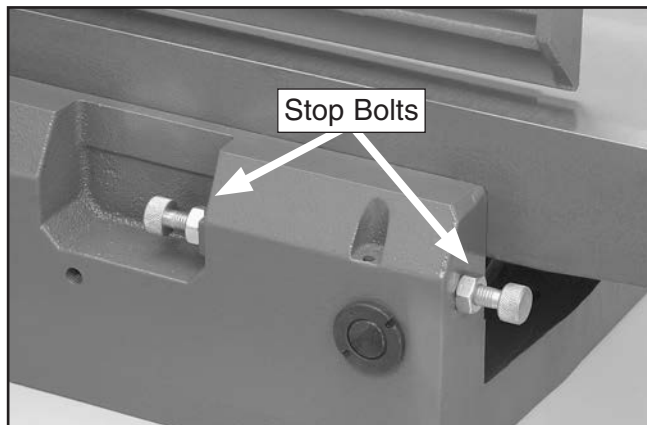

Figure 57. Outfeed table positive stop bolts.
4. Loosen outfeed table lock located at front of machine, and loosen jam nuts and positive stop bolts located at back of machine just behind outfeed table (see **Figure 57**).
8. Tighten outfeed table lock located at front of machine, and tighten positive stop bolts and jam nuts located at back of machine (see **Figure 57**) so that outfeed table will not move during operation.